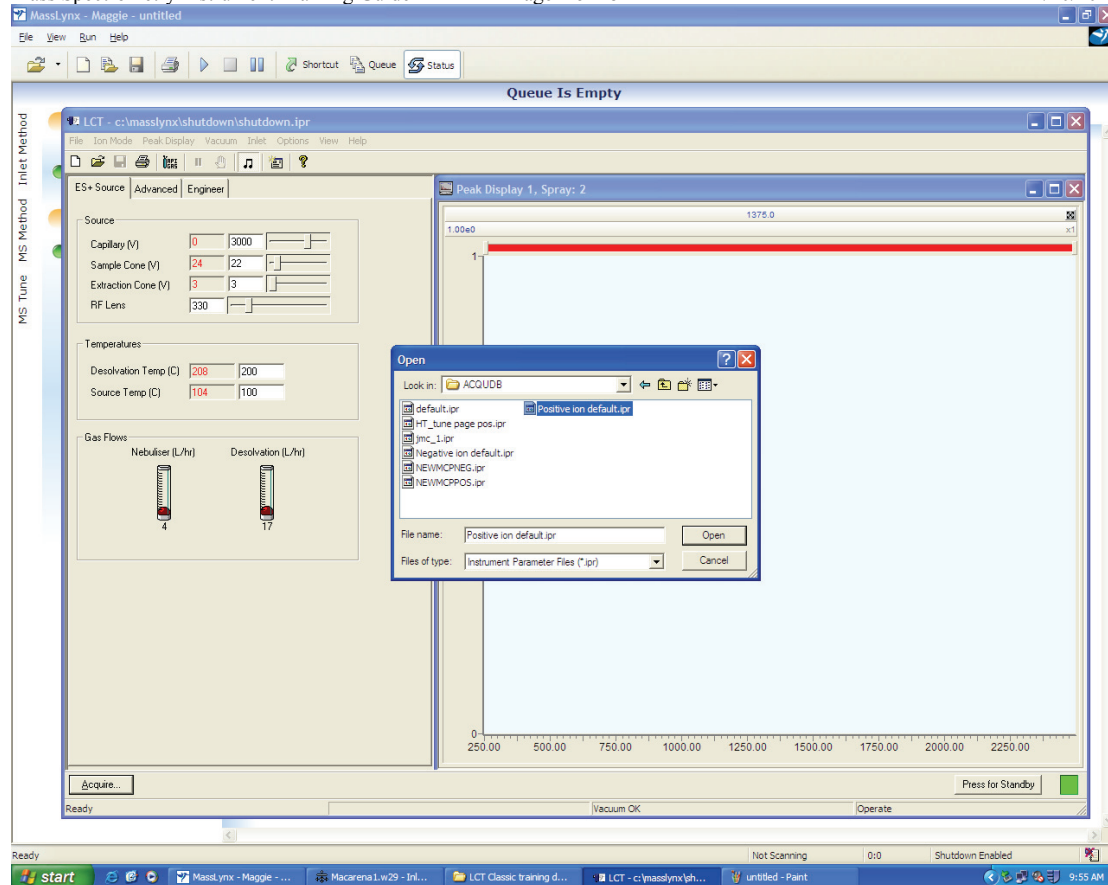

Figure 3: Select a suitable IPR ('tuning') file for your experiment from File/open (make sure your project is selected).
1.3 Choose and load a suitable IPR file for your experiment then select the corresponding ion mode (Fig 3 & 4).